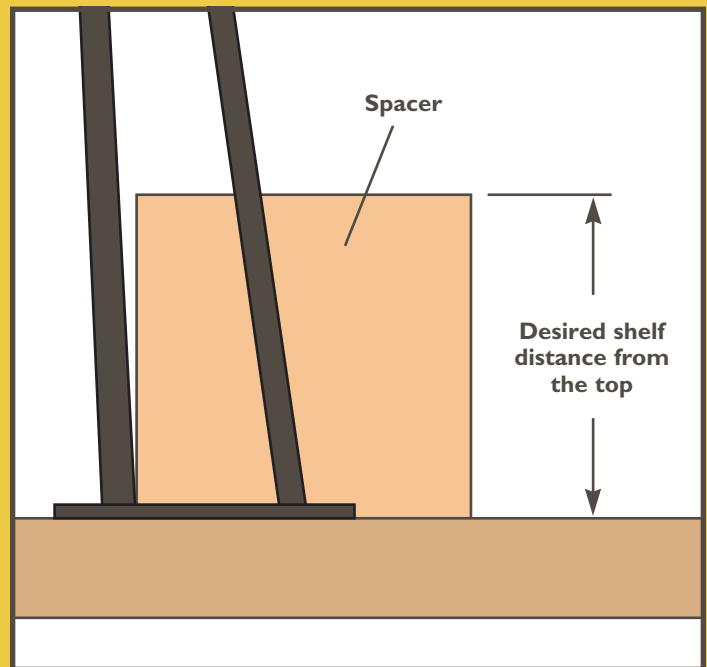

Fig. 1
2. Turn the table upside down on a non-marring work surface and find or make a spacer or spacers that will position the shelf at the desired distance from the top. **Fig. 1.**